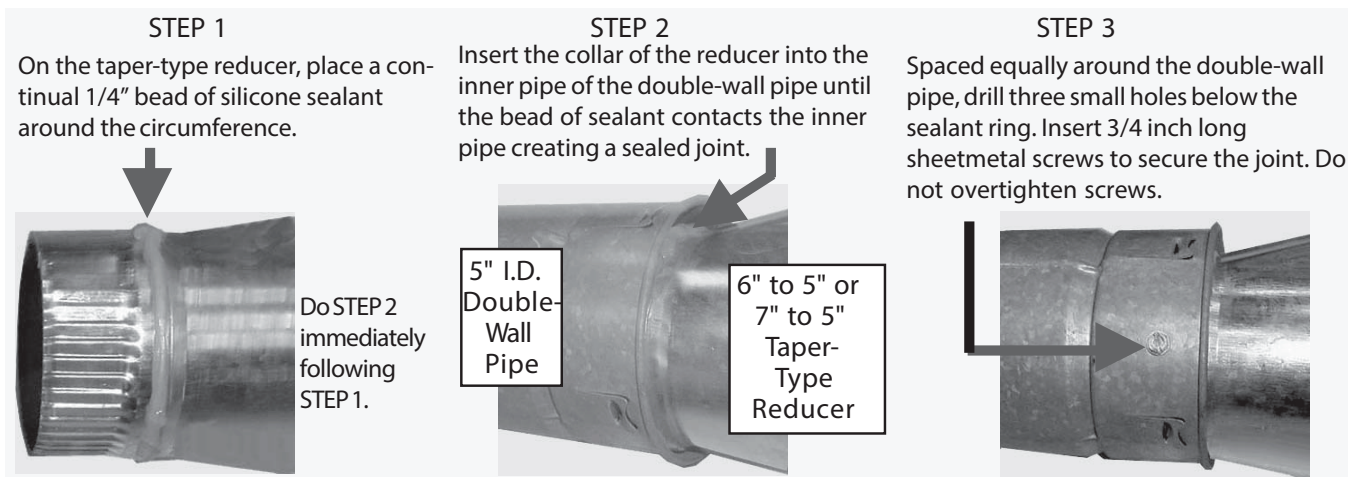

Figure 8. Joining Double-Wall (Type B) Pipe to Single-Wall or Category III Vent Pipe Using Tapered Reducer
- **To seal the joint between the terminal section of double-wall vent pipe and a single-wall or Category III vent pipe:** follow the illustrated step-by-step instructions in Figure 8. Make this connection no more than 6 inches (152 mm) from the concentric adapter box.